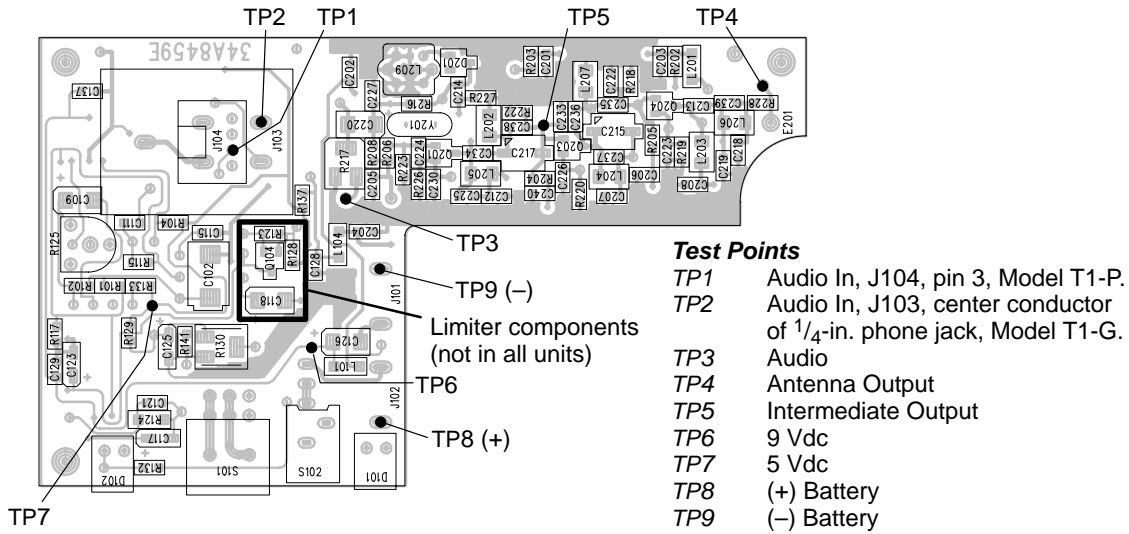

Figure 3. Pcb Side 1
**Note:** pc boards with the limiter components (see Figure 3) should have the lower (+3.1 dB) audio output level.